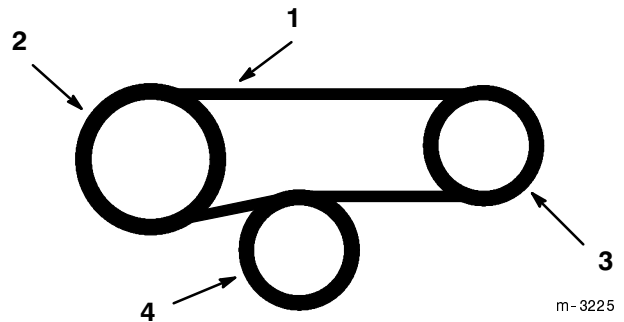

Figure 83
4. Install new PTO belts over clutch and route around gearbox pulleys and above spring loaded idler (Fig. 83).